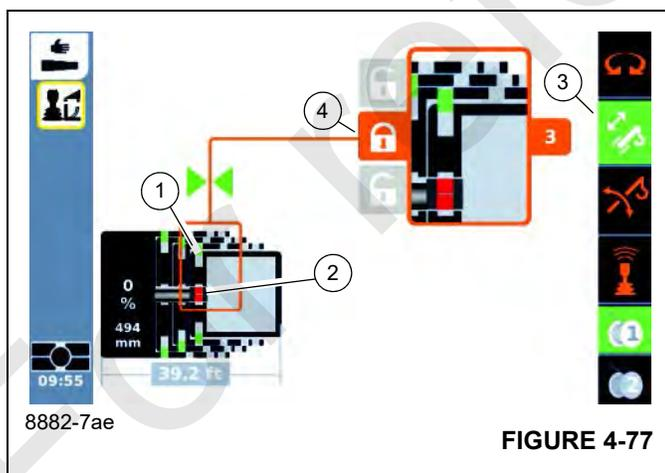

FIGURE 4-77
- Telescoping mechanism ON – symbol (3), (Figure 4-77) green.
- Telescopic section locked – symbol (1), (Figure 4-77) green.
**NOTE:** Lock command available – symbol (4), (Figure 4-77) orange.
Telescoping cylinder unlocked – symbol (2), (Figure 4-77) red.